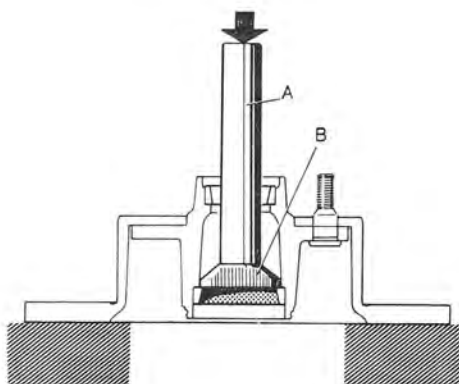
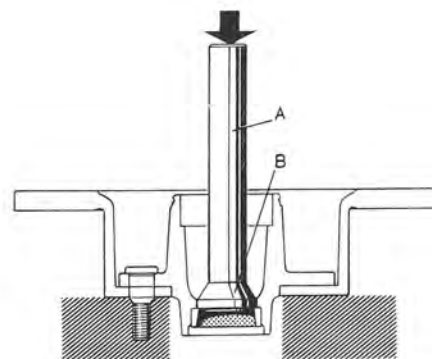

Fig. 7-21. Removing inner bearing ring
Fig. 7-22. Removing outer bearing ring
5. Remove the bearing rings. Use drift 2724 (Fig. 7-21) for the inner bearing ring and drift 2725 (Fig. 7-22) for the outer bearing ring together with standard handle 1801.